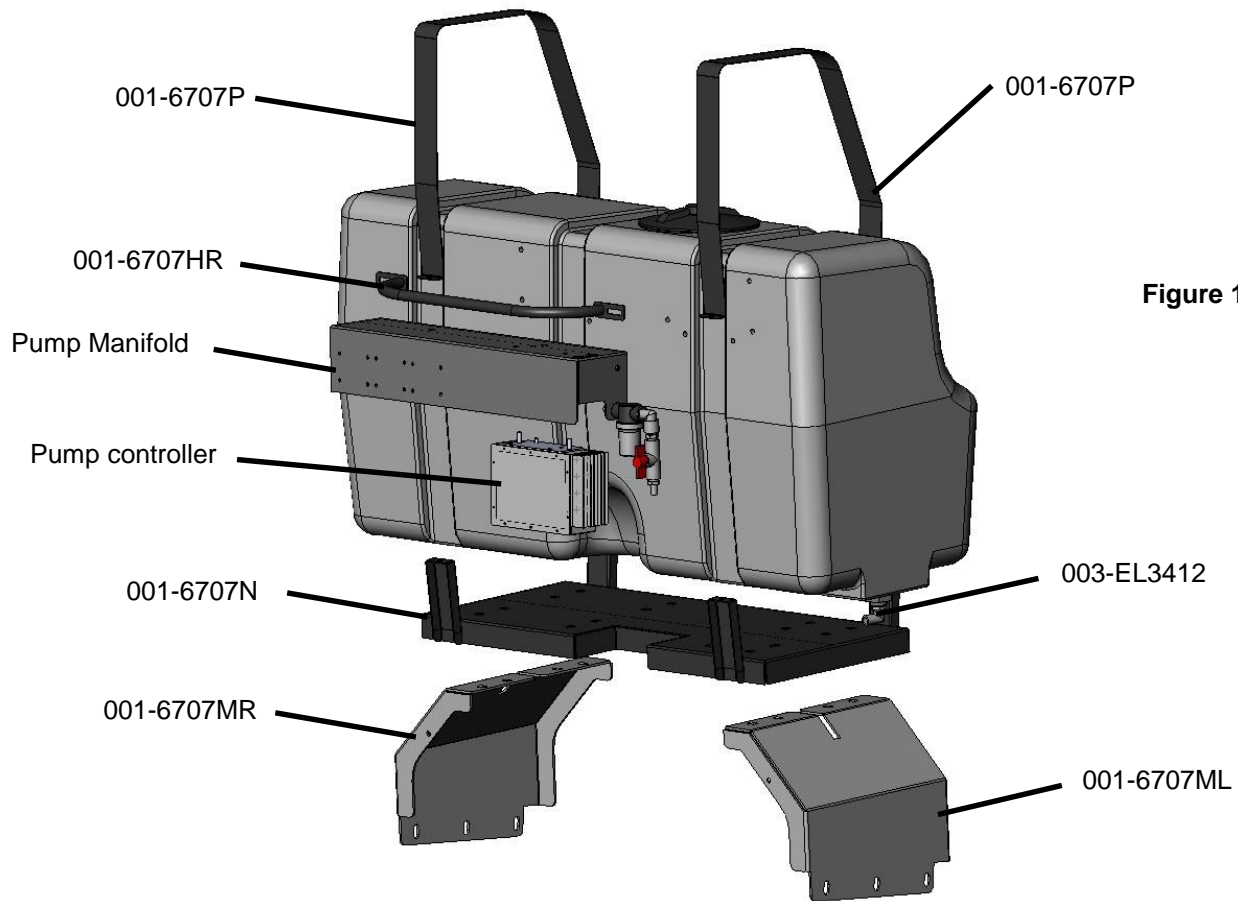

Figure 1
1. Remove the two tank straps (001-6707P) by removing all eight 3/8" hex nuts. Figure 1
3. Install the pump supply elbow (003-EL3412) on the bottom of the tank. Figure 1
4. Install the Pump Controller (006-5672) on to the pump manifold. Secure using two 5/16" lock washers, flat washers and hex nuts. Figure 1